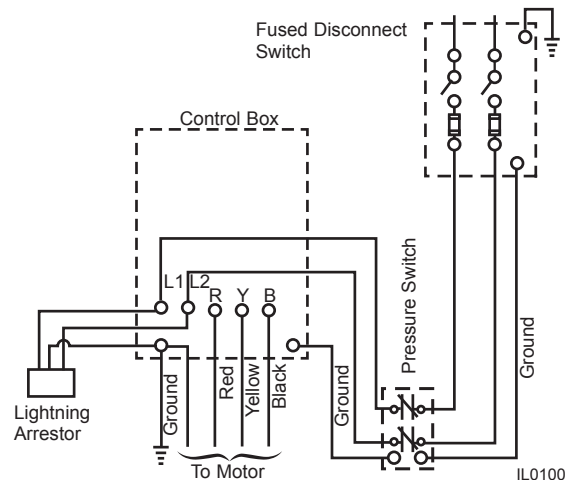

Figure 9 — Single Phase Control Box
- Proceed with electrical hook-up matching cable colors and following the wiring diagrams (Figures 9, 10 & 11) or inside the lid of the control box.